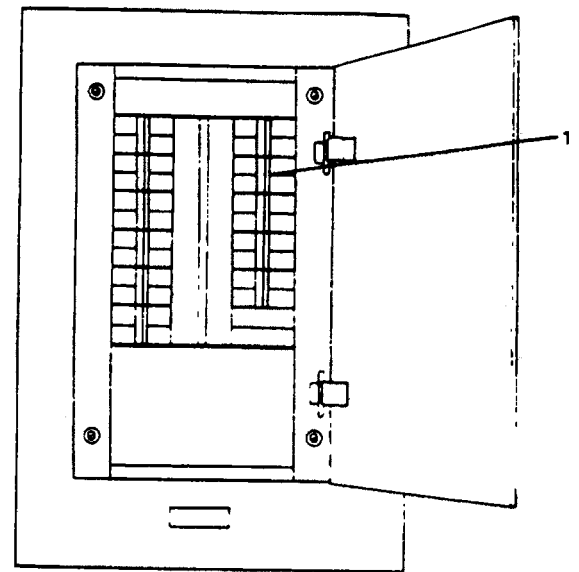

Figure 2-284. Exterior Emergency Lighting Panel No. 2.
(1) Exterior emergency lighting panel no. 2 (Figure 2-284). Set ROTARY CLEAR VIEW SCREEN & HEATER circuit breaker (1) to ON position.
(2) Exterior emergency lighting panel no. 2 (Figure 2-284). Set ROTARY CLEAR VIEW SCREEN & HEATER circuit breaker (1) to OFF position.